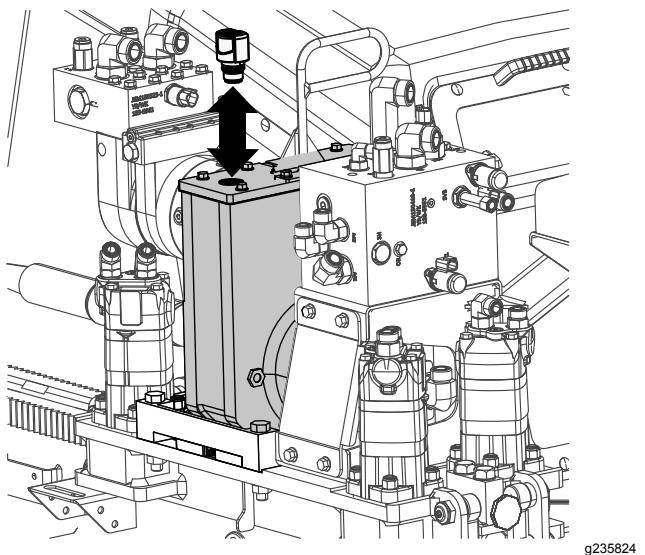

Figure 102
5. Remove the breather cap (Figure 102).
7. Install the breather cap (Figure 102).